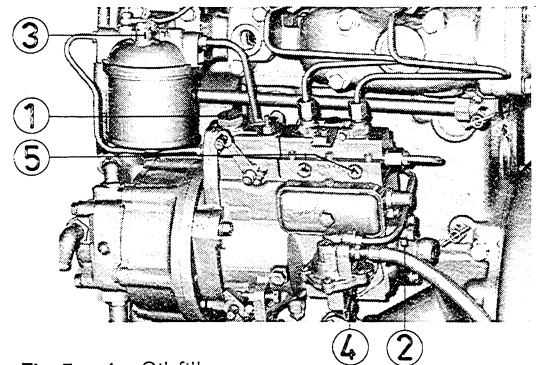

Fig. 5 1 Oil filler cap
- 3 The governor and injection pump should be lubricated with the same oil as for the engine and reduction gear. The oil is filled through the oil filler cap, No. 1, until oil flows from the oil level plug No. 2, fig. 5.
- 4 Bleed the fuel system. This should be done even if the engine has not been used for a long time or if the fuel tank has been emptied during running. Slacken the banjo bolt, fig. 5 No. 3, on the fuel filter and pump fuel with the hand pump, fig. 5 No. 4, until a stream of fuel free from air bubbles flows from the bolt. Then tighten the bolt. Slacken the bleed screws No. 5, on the injection pump and repeat the operation, tightening the bleed screws when fuel flows free from air bubbles. Air in the fuel system is the main cause of starting troubles or irregular running. If the fuel system needs frequent bleeding, check fuel pipes, pipe fittings and tank in order to find any air leaks.